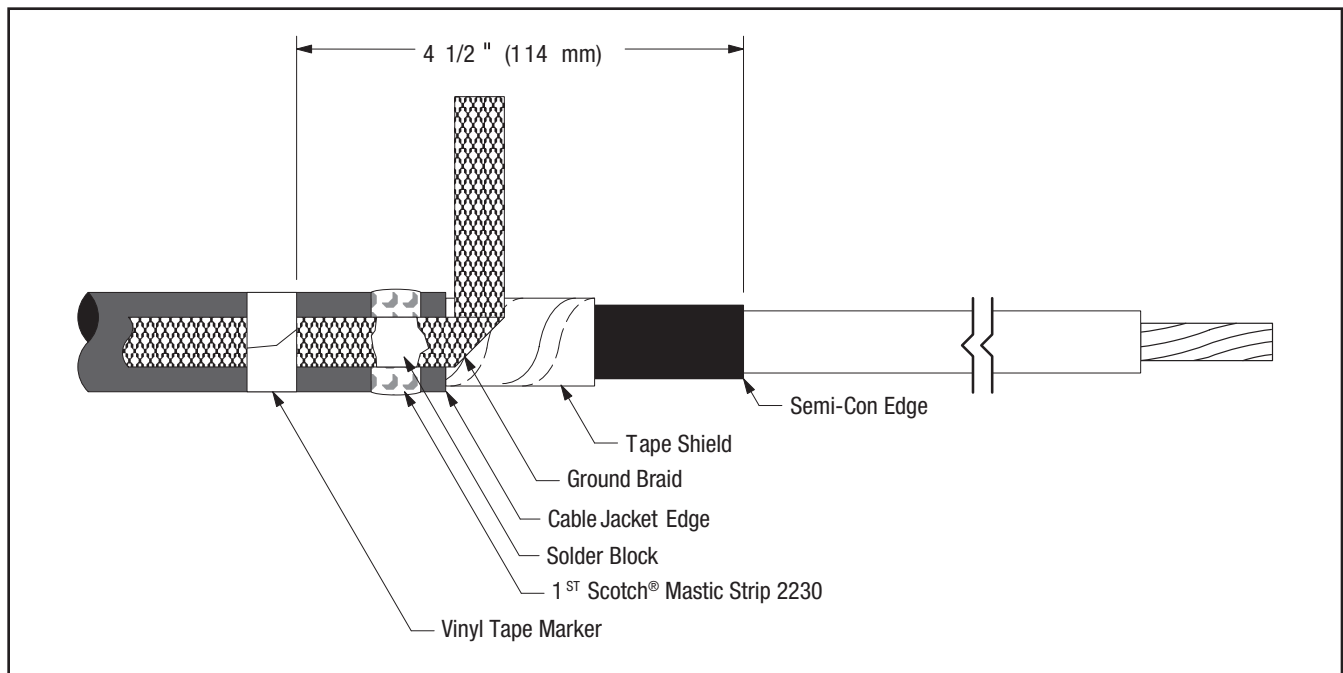

Figure 3
3.2 Position pre-formed ground braid with short tail over tape shield directly adjacent to cable jacket cut edge. PLEASE NOTE: The ground braid needs to make full contact with the metallic shield. Position long tail of ground braid, extending over cable jacket with solder block over mastic strip (Figure 3). Secure ground braid to cable jacket 4 1/2" (114 mm) from cable semi-con edge using vinyl tape (Figure 3).